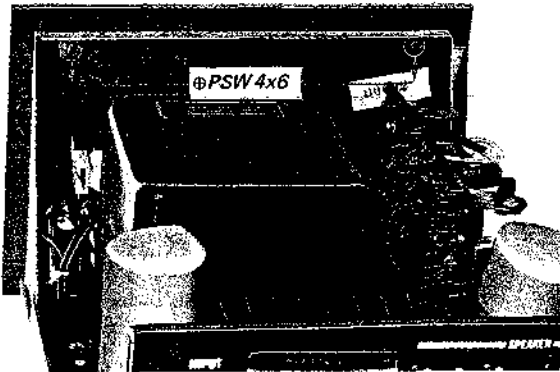

Fig. 2-2. Front panel removal
3. Remove the two screws (⊕ PSW 4x6) behind the top edge of the front sub-chassis as shown in Fig. 2-2.